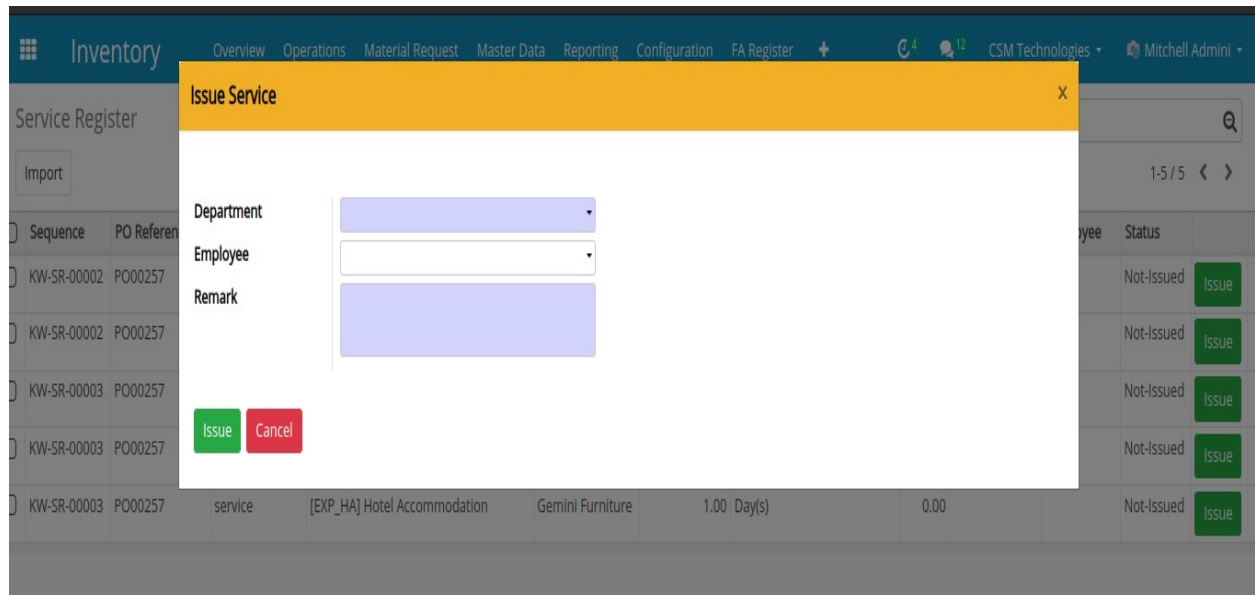

Figure 3.0 - Issue Service
- Upon clicking issue button pop-up will come for asking details about department, employee and remark for issuance for that particular service as per fig 3.0.